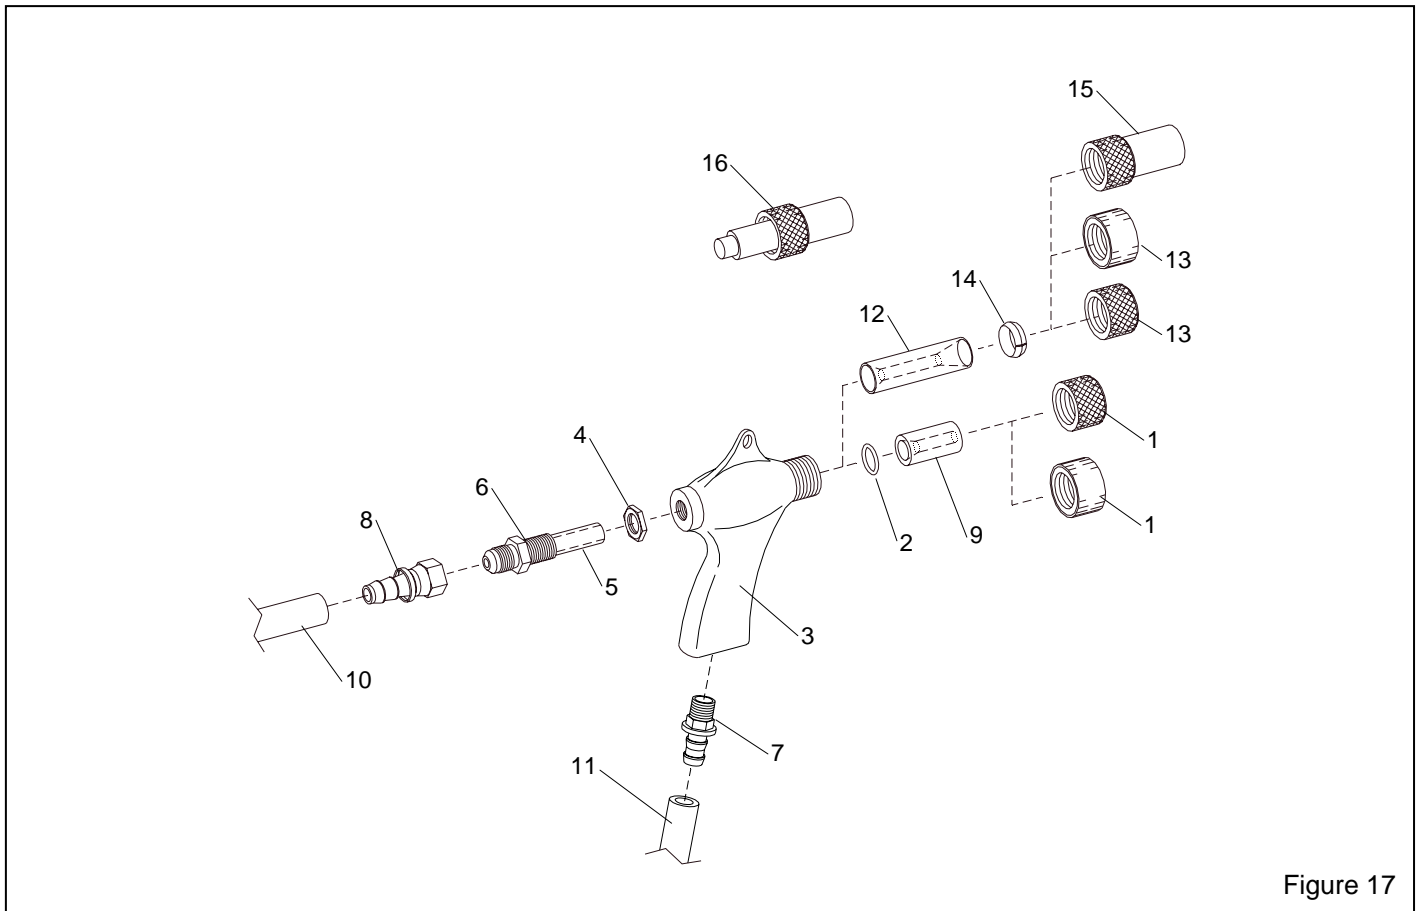

Figure 17
8.3 BNP Gun and Feed Assembly, Figure 17